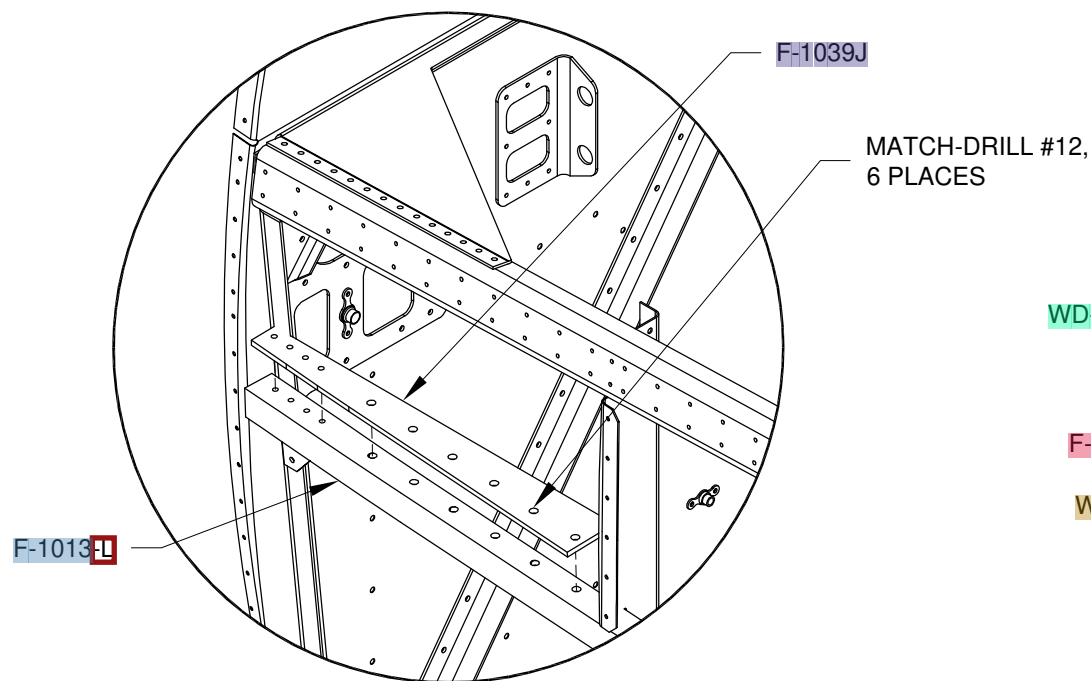

FIGURE 1: DRILLING THE RUDDER PEDAL ATTACH HOLES
Step 2: Cleco the F-1039J Rudder Pedal Drill Jig to the F-1013-L Fwd Fuse Longerons as shown in Figure 1. Double check that the rudder pedal drill jig is not upside-down! Match-Drill #12 the six aft most holes in the rudder pedal drill jig into the fwd fuse longeron. Repeat this step for the right side of the aircraft.